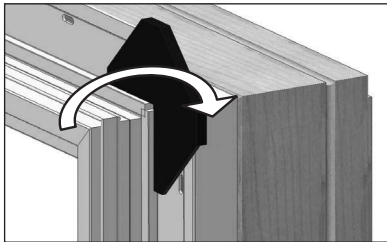

FIG. 10
- a. Apply the adhesive side of the pad to the outside of the nailing fin corner and fold over the nailing fin. (Fig. 10)
- Apply the adhesive side of the pad to the outside of the nailing fin corner and fold over the nailing fin. (Fig. 10)